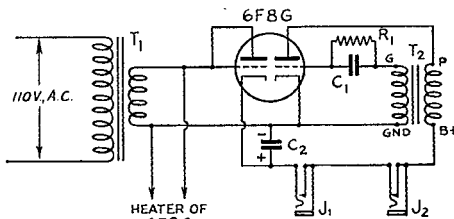

Fig. 1 — Wiring diagram of the code-practice oscillator.
**C**ODE-PRACTICE oscillators have been built in the past which utilized only the voltage drop across the filament for the plate voltage, some have incorporated a small B battery for the plate supply, and still others have used the 117-volt cathode types to work directly from the power line. The oscillator shown in Fig. 1 uses a double-triode type of tube, with one triode section forming the oscillator portion and the other connected as a diode rectifier to furnish a small amount of plate voltage for the oscillator. By using the twin-triode tube in this arrangement, the oscillator is completely isolated from the power line, and there is no opportunity for a novice or careless person to get an electrical shock from the equipment. The voltage applied to the diode rectifier is obtained from the heater transformer, and thus there is no connection between any part of the unit and the 110-volt line.
As can be seen from Fig. 1 and the photographs, there are very few components in the unit and it is a simple matter to assemble them. Two jacks were used for connection to the key and headphones or speaker, but the ingenious constructor can easily replace these with cheaper substitutes if he desires. However, it is likely that one's headphones will normally be connected to a plug, and thus at least one jack is a good investment.